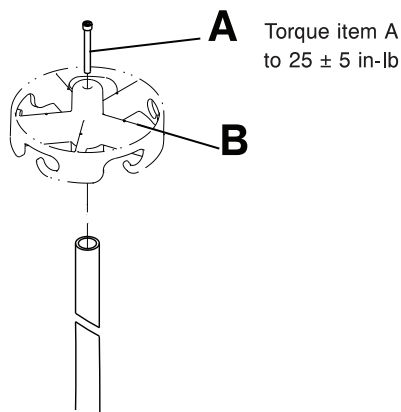

Figure 32: IV pole topper replacement
1. Using a 3/16" hex wrench, remove the socket head cap screw (A) from the center of the IV pole topper (B). Save the screw (Figure 32 on page 51).
4. Using a 3/16" hex wrench, install the socket head cap screw (A) (removed in step 1) to secure the IV pole topper to the IV pole. Using a 3/8" drive torque wrench, torque the screw to 25 ± 5 in-lb.